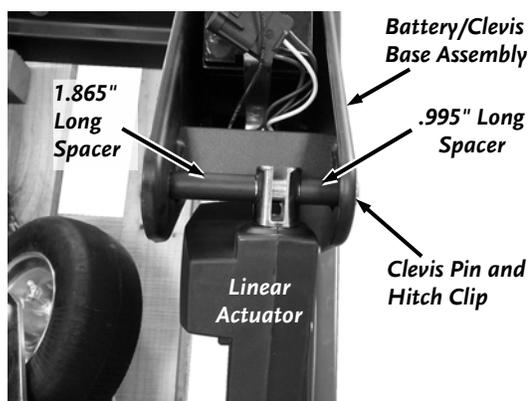

Figure 4
5. Take note of the orientation as you remove the Hitch Clip, Clevis Pin, and the two Spacers assembled in the Battery/Clevis Base Assembly (**Figure 4**).